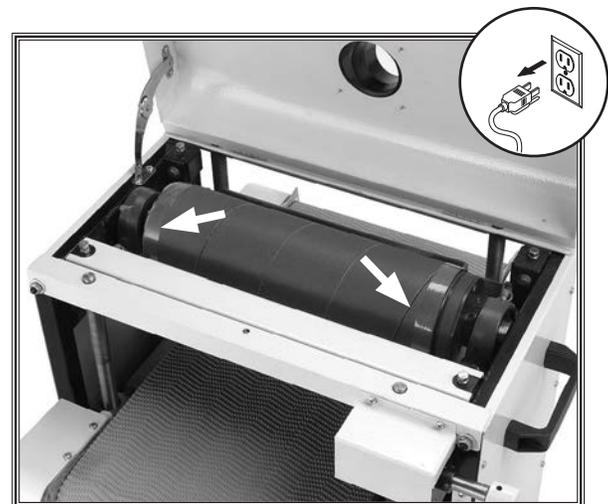

Figure 15. Sandpaper wrapped with strapping tape at both ends of drum.
6. Tape both ends with  $\frac{3}{4}$ " strapping tape (see Figure 15), making at least two complete passes so that the second layer is directly on top of the first.